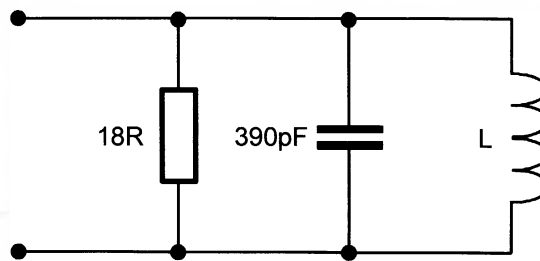

Figure 4
20. Calculate the value of inductor that would give the circuit in Figure 4 below a resonant frequency of 630kHz.